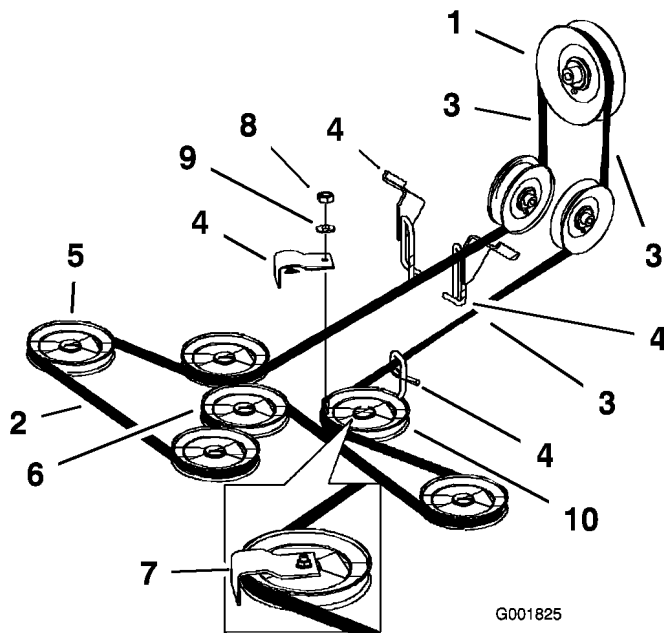

Figure 55
4. Loosen the nut securing the idler plate and move the idler plate to relieve the belt tension on the idler pulley, then remove the worn mower belt (Figure 55).
5. Install the new mower belt around the mower spindle pulleys, mower idler pulley, into the belt guides, into rear idler arm assembly, and the clutch (Figure 55).
Important: Check the amount of twist in the belt between the pulleys. Make sure it is only what is specified in Figure 55.